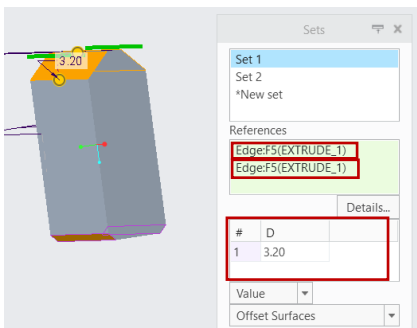

fig3.1
- Then **4** edges are chamfered to **3.5mm** and **1mm** as shown in fig3.1